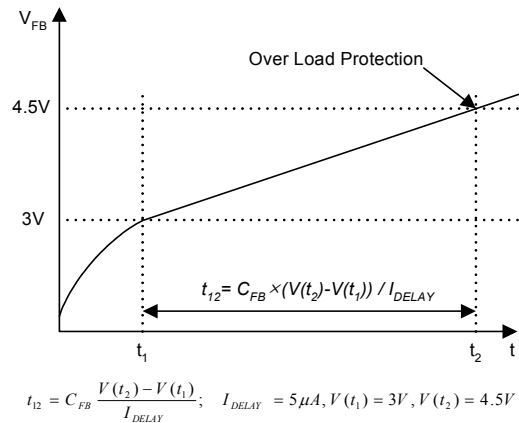

Figure 10. Over Load Protection (OLP)
**4.1 Over Load Protection (OLP) :** Overload is defined as the load current exceeding a pre-set level due to an unexpected event. In this situation, the protection circuit should be activated in order to protect the SMPS. However, even when the SMPS is operating normally, the over load protection (OLP) circuit can be activated during the load transition. In order to avoid this undesired operation, the OLP circuit is designed to be activated after a specified time to determine whether it is a transient situation or an overload situation. In conjunction with the Ipk current limit pin (if used) the current mode feedback path would limit the current in the Sense FET when the maximum PWM duty cycle is attained. If the output consumes more than this maximum power, the output voltage (Vo) decreases below its rating voltage. This reduces the current through the opto-coupler LED, which also reduces the opto-coupler transistor current, thus increasing the feedback voltage (VFB). If VFB exceeds 3V, the feedback input diode is blocked and the 5uA current source (IDELAY) starts to charge Cfb slowly up to Vcc. In this condition, VFB increases until it reaches 4.5V, when the switching operation is terminated as shown in Figure 10. The shutdown delay time is the time required to charge Cfb from 3V to 4.5V with 5uA current source.